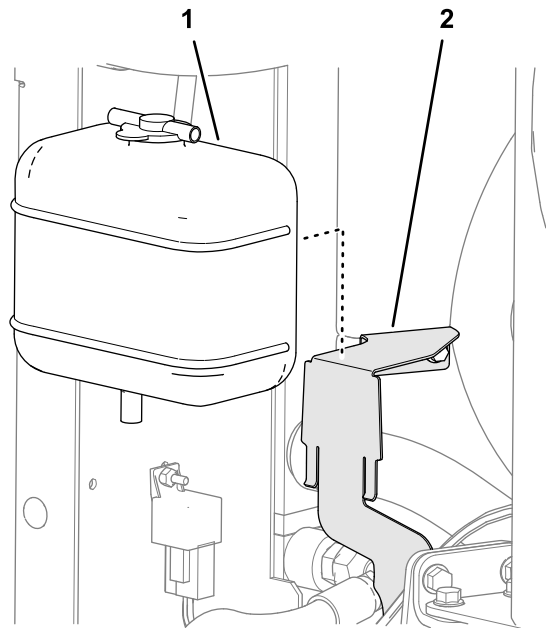

Figure 53
1. Assemble the coolant reservoir tank onto the coolant reservoir bracket as shown in Figure 53.